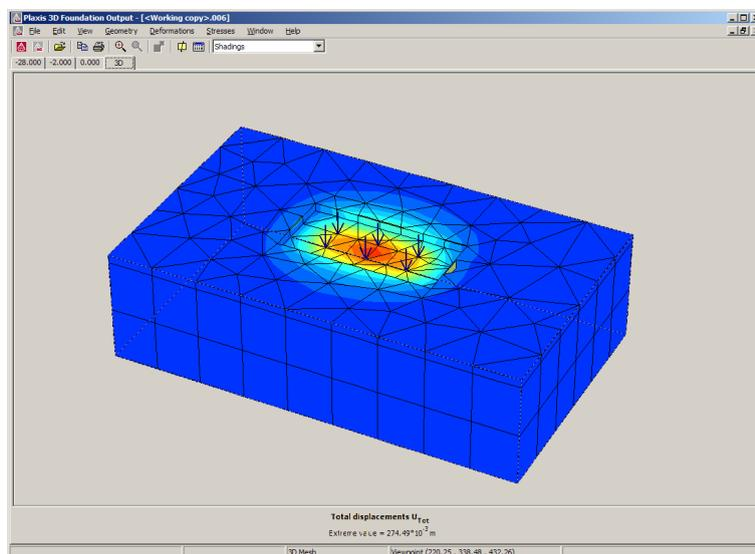

Figure 3.23 Shadings of total displacements
- The presentation combo box in the toolbar currently reads *Arrows*. Select *Shadings* from this combo box. The plot shows colour shadings of the total displacements (see Figure 3.23). A legend is presented with the displacement values at the colour boundaries. In case the floor is shown this will partially hide the displacements of the soil. In order to obtain the plot shown below, switch off the floor by selecting the *Structures* option from the *Geometry* menu.